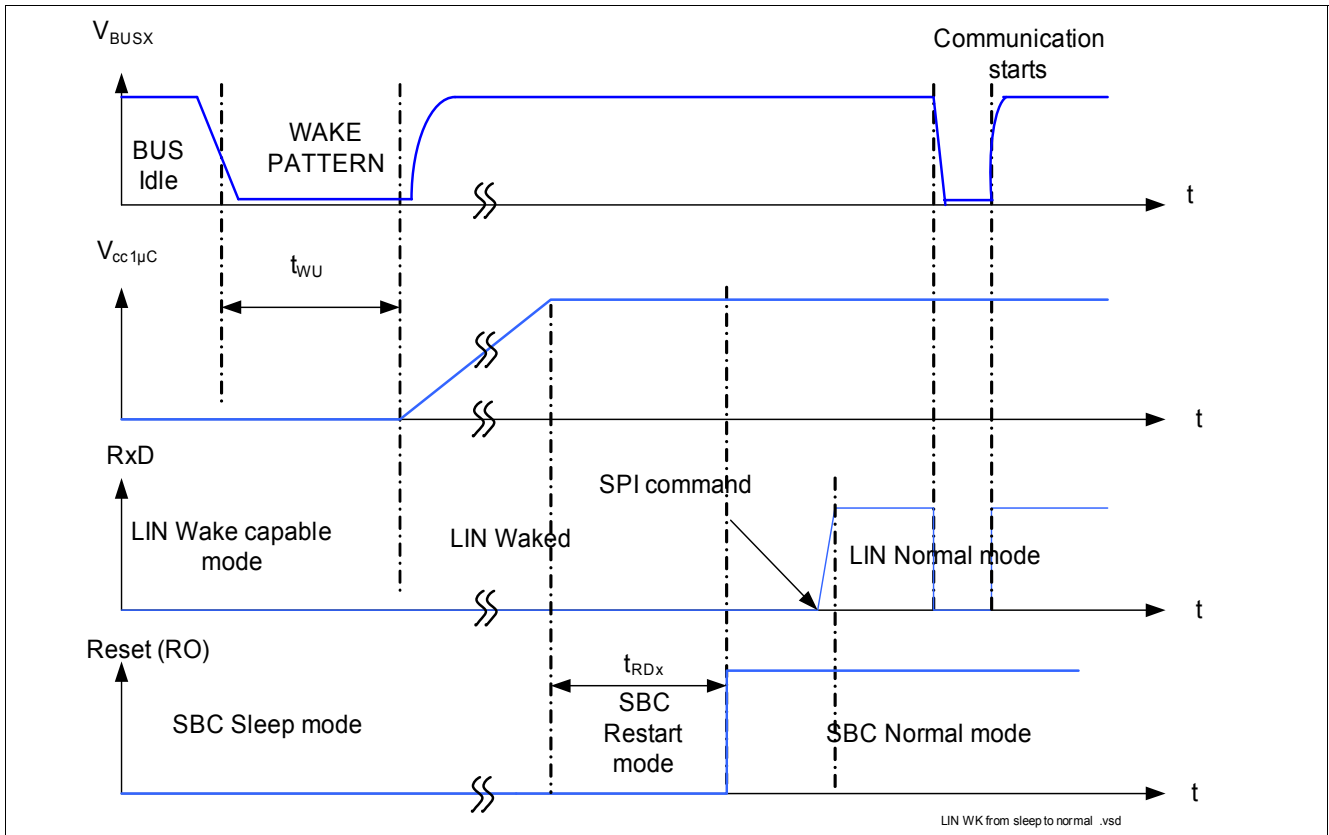

Figure 21 Timing during Transition from SBC Sleep to SBC Normal Mode
Wake-up is possible via a LIN message (filtering time $t > t_{WK,bus}$), it automatically transfers the SBC into the SBC Restart Mode and from there to Normal Mode the corresponding RxD pins in set to LOW, see Figure 21. The microcontroller is able to detect the low signal on RxD and to read the wake source out of the “Wake Register Interrupt” register (000) via SPI. No Interrupt is generated when coming out of Sleep Mode. The µC can now switch the CAN transceiver into LIN Normal Mode via SPI to start communication.